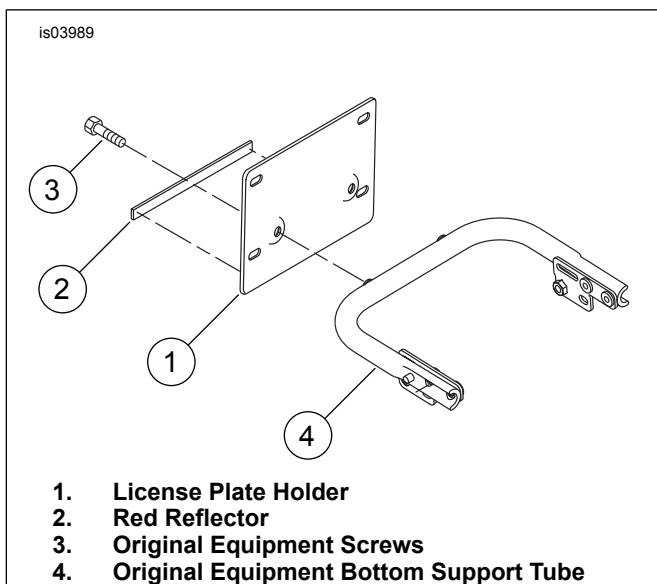

Figure 2. Install License Plate Holder
3. See Figure 2. Install the new license plate holder (1) to the bottom support tube (4) using screws (3) saved from prior step.
4. Remove adhesive backing from red reflector (2). Carefully center and align it with the bottom edge of the license plate holder (1). Press firmly into place.